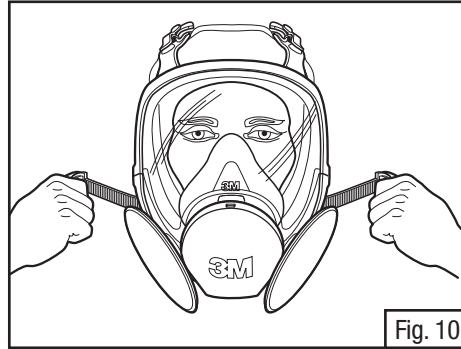

Fig. 10
2. Pull the ends of the four straps to adjust tightness, starting with the neck straps first, then the forehead straps. Do not over tighten the straps (Fig. 10).